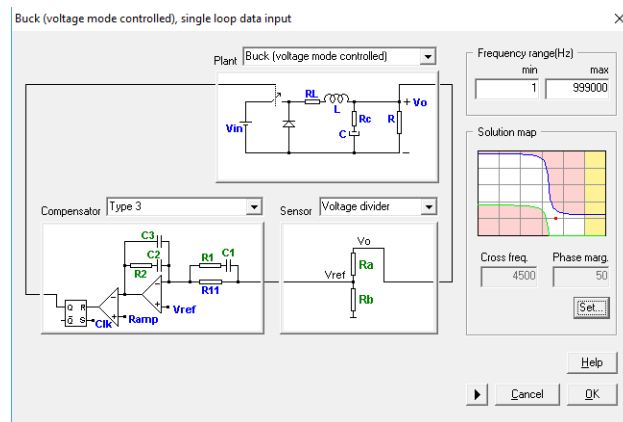
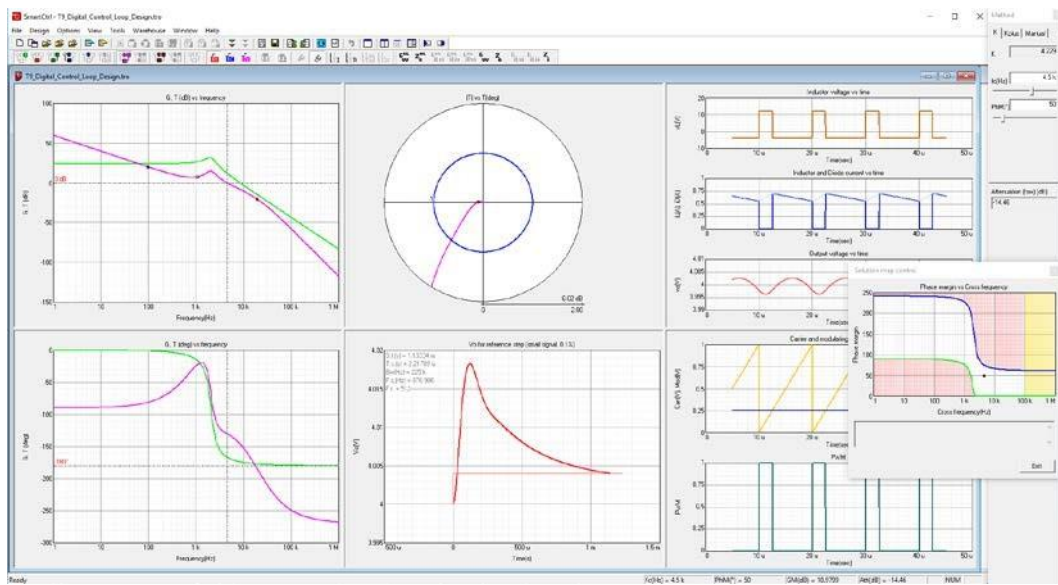

Figure 7: Control loop fully defined
Figure 8: SmartCtrl analysis view
6. The analog loop is already designed as it can be seen in Figure 7. Click OK to finish the wizard. SmartCtrl will launch the analysis view where Bode and Nyquist plots, transient plot and steady state waveforms can be used to analyze the stability and dynamic response of the system designed. See Figure 8.